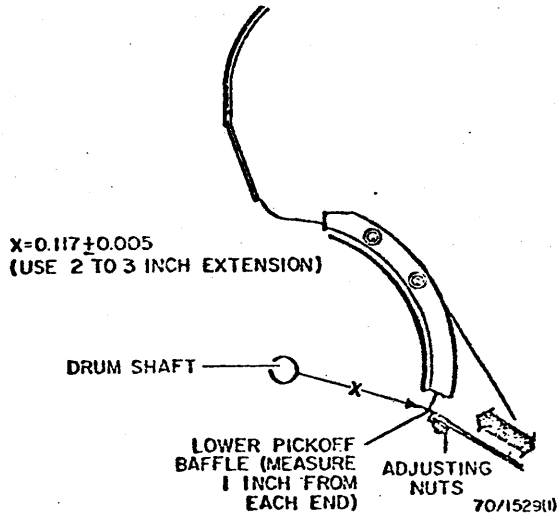

Fig. 3-174. Lower Pickoff Baffle
2. Adjust the baffle to the dimension shown in Fig. 3-174.